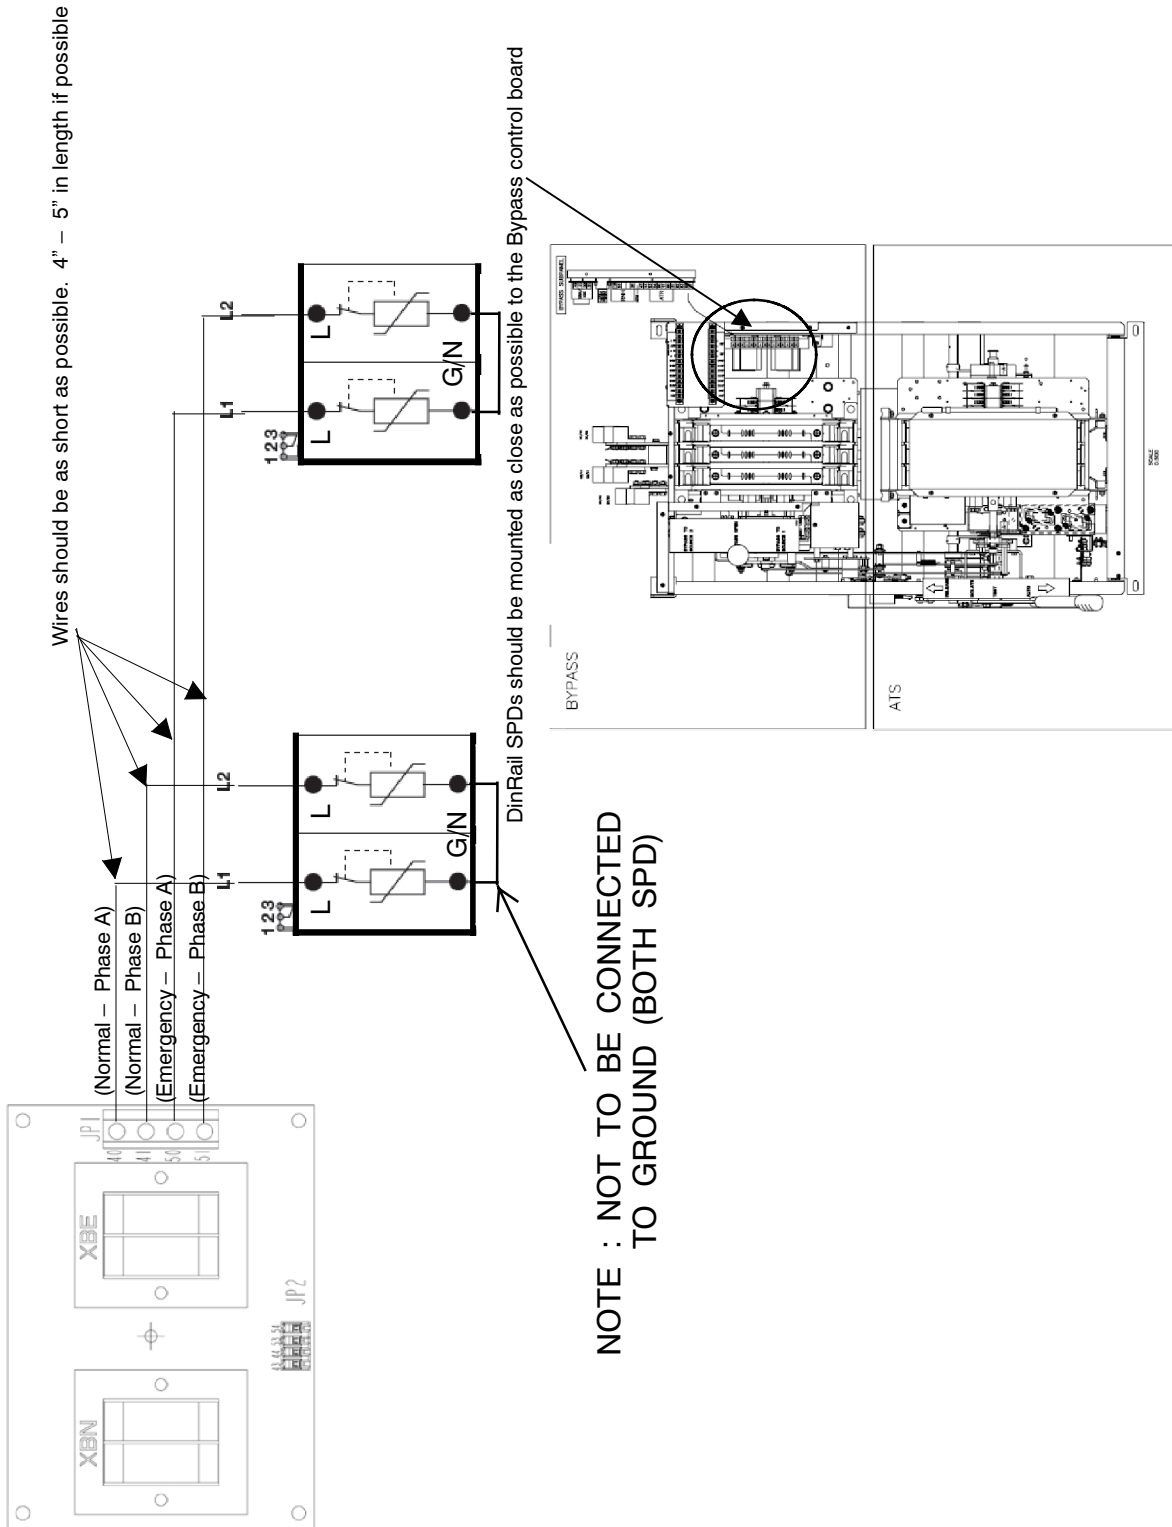

Figure 2 Surge Protective Device (SPD) Connection
Note: Refer to Figure 2 during the installation procedure.
5. Find a location for the surge suppressor kit as close as possible to the bypass control board. See Figure 2 for a typical installation. Cover the transfer switch mechanism and drill mounting holes as required to attach the mounting bracket. Use a brush or vacuum to remove any debris from the enclosure.
8. Use customer-supplied #6 to #14 AWG wire to connect the L1 and L2 terminals on the SPDs to terminal strip JP1 on the transformer board. See Figure 2. Keep the leads as short as possible. Lead lengths of 4 to 5 inches are recommended.
9. Connect jumper leads across the G/N terminals on the two Normal SPDs and the two Emergency SPDs as shown in Figure 2.